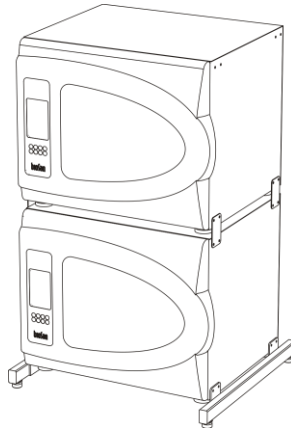

Figure 5. Stacking three units, middle level
5.5.4. Middle unit (figure 5):